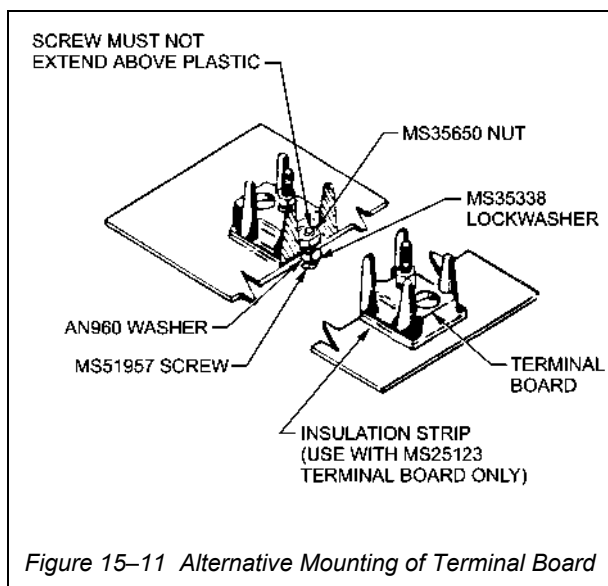

Figure 15-11 Alternative Mounting of Terminal Board
46. If it is not possible to install the mounting screw from the top of the terminal board, install it from the back, as shown in Figure 15-11. In this case, the end of the screw should project just beyond the top of the nut, but do not use a screw that will extend beyond the level of the terminal board mounting surface.